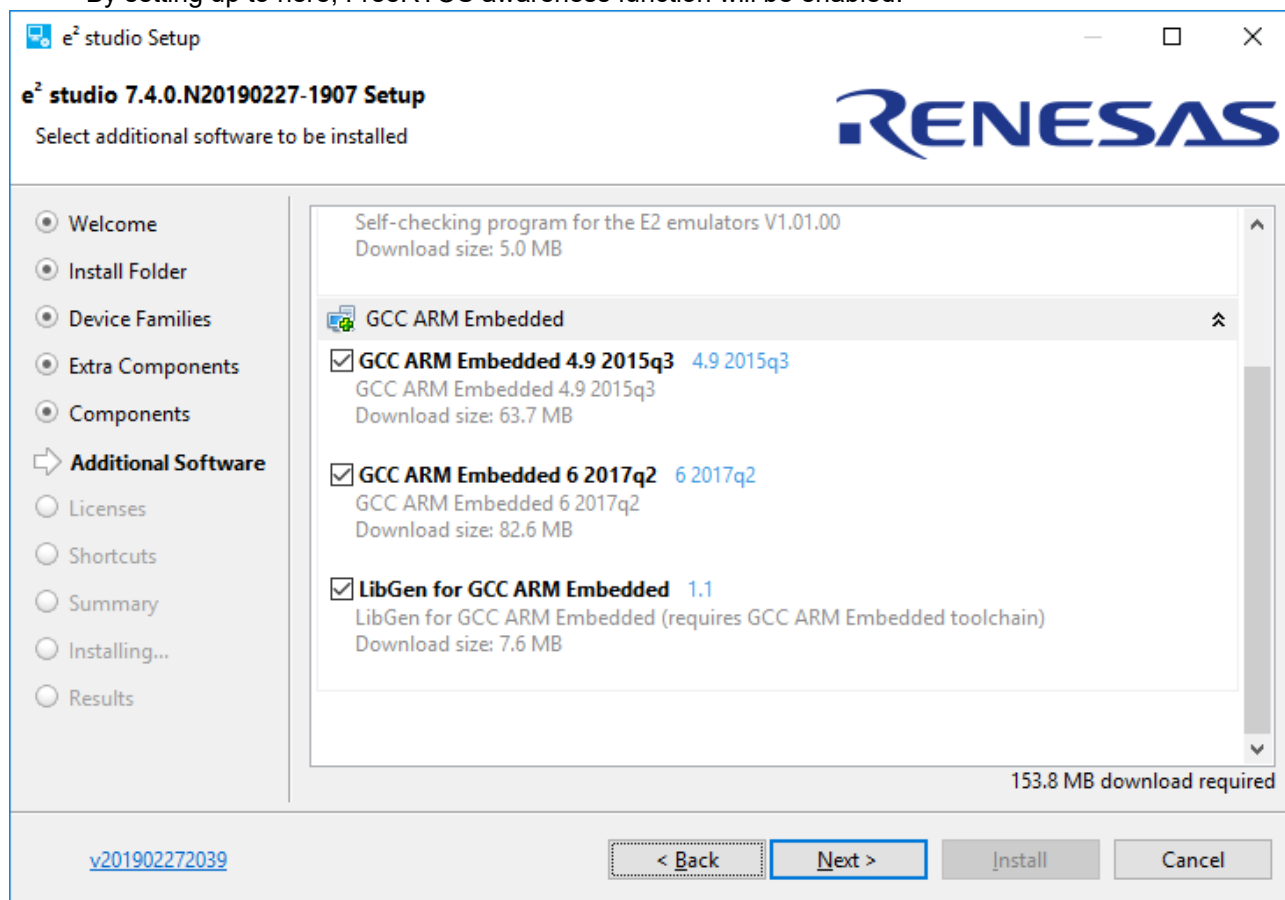

Figure 6-4 Adding FreeRTOS awareness function (new e² studio installation) 4
- Check “GCC ARM Embedded 6 2017q2” and “LibGen for GCC ARM Embedded” at “Additional Software” stage of install wizard. This is shown in Figure 6-4.